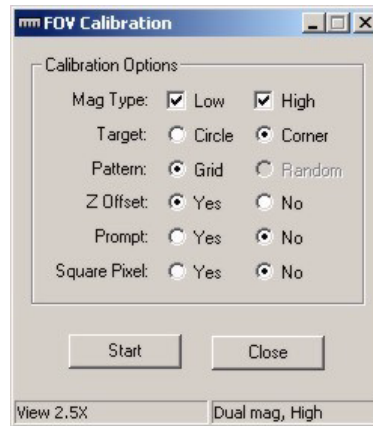

Figure 8-15 FOV Calibration Window
8. Click **Auto Cal** to display the FOV Calibration window (see Figure 8-15).
The system automatically performs the lens calibration and displays the FOV Calibration window (see Figure 8-15) when finished.